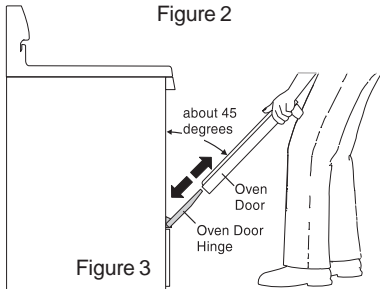

Figure 3
5. Grasp oven door firmly on both sides and slide door up and off hinges at the same angle. (See Fig. 3)
2. Hold door at the sides near the top while resting the lower front of door on your knee. Insert the door channels at the bottom of door over the door hinges, (See Fig. 3).